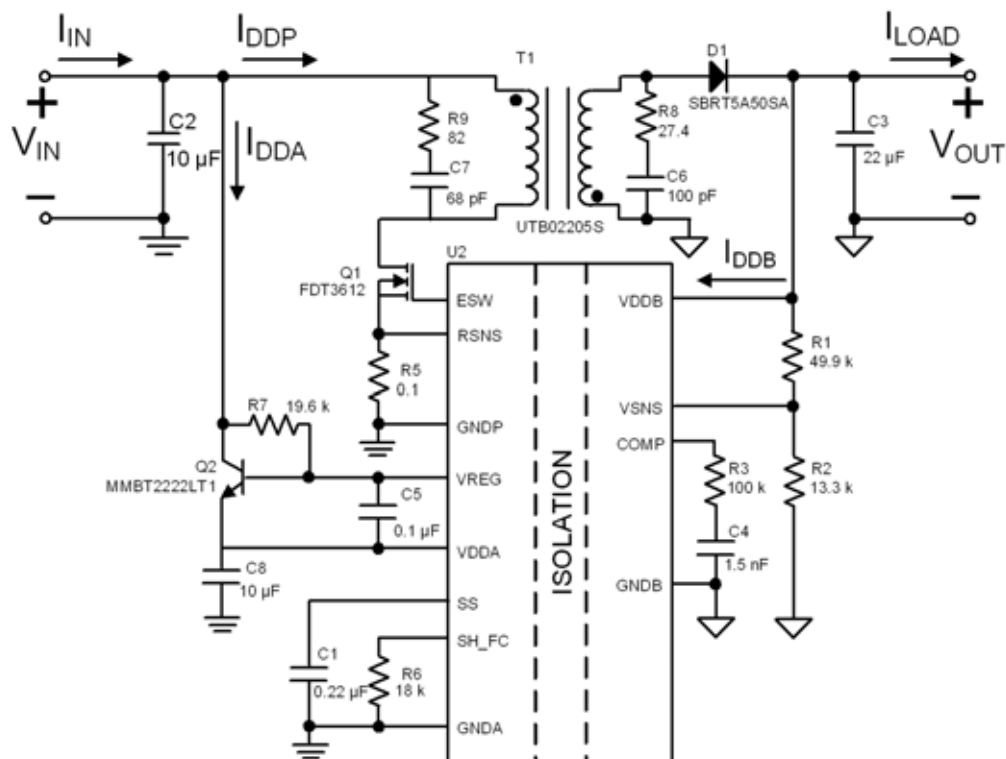

Figure 3. Measurement Circuit for Converter Efficiency and Regulation for Si884xx, Si886xx
$V_{IN} = 24\text{ V}$; $V_{DDA} = 4.3\text{ V}$ (see Figure 3) for all Si8844x/64x; $V_{DDA} = V_{DDP} = 3.0\text{ to }5.5\text{ V}$ (see Figure 2) for all Si8824x/34x;
*Note: Maximum value allowed in the event of a failure. Refer to the thermal derating curve in Figure 3.